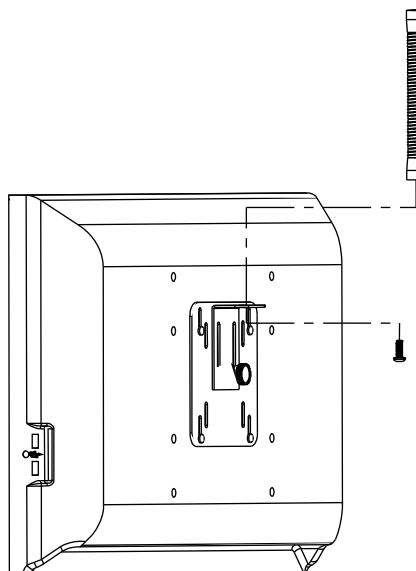

Figure 3 - Attaching the flex arm to the VESA plate
Using the bracket angle, the provided screw, and the provided Allen wrench, attach the flex arm to the bracket angle as shown (*figure 3*).
5. Repeat for the other bracket, using the line you marked for the top flange as a reference. Brackets must be no less than 20" apart for the I-36 and the I-46. Brackets must be no more than 32" apart for the I-36 and no more than 44" apart for the I-48 (*figure 3*).